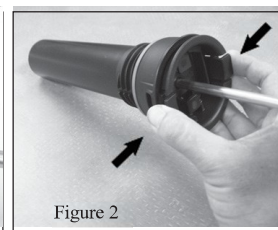

Figure 2
2. To remove pump cap from pump barrel, squeeze the tabs on the cap and pull away from barrel (See Figure 2).